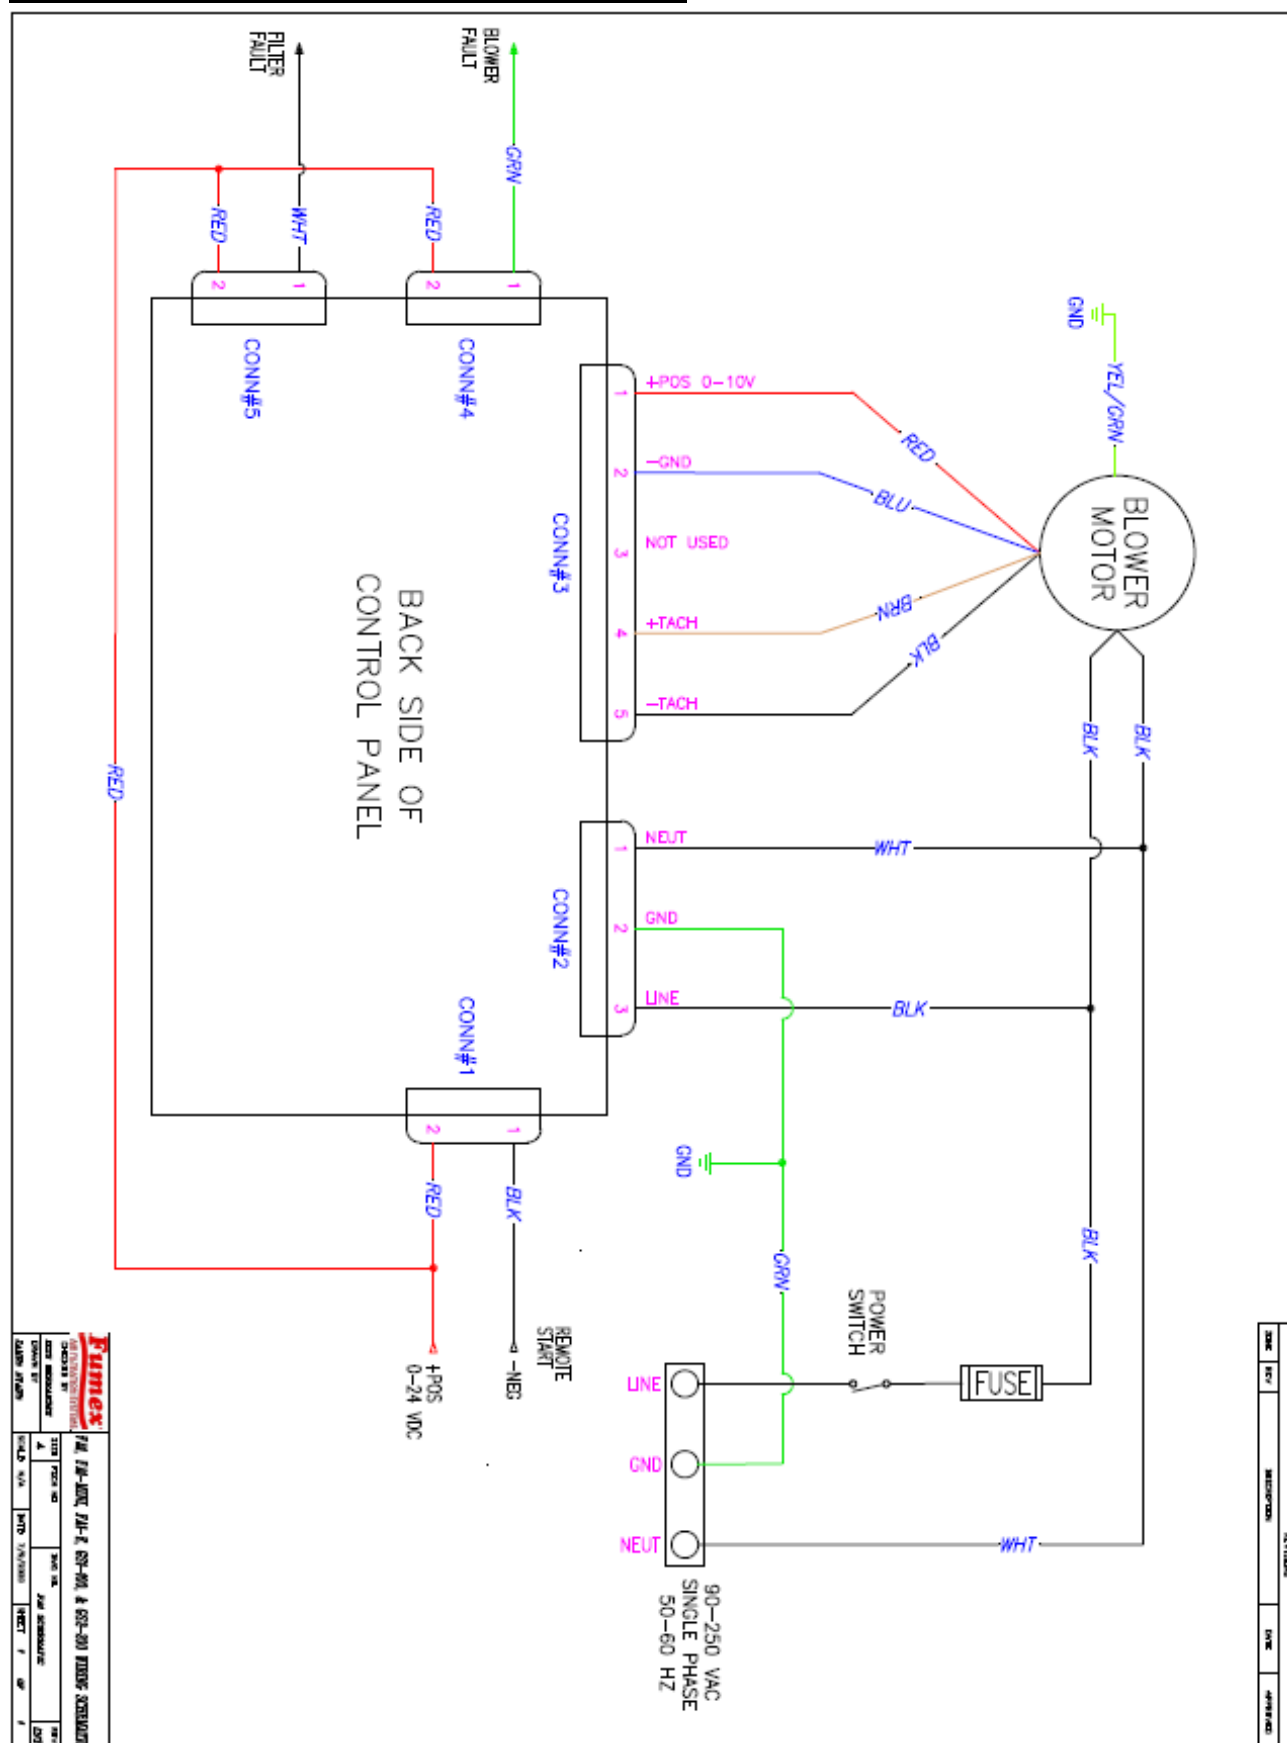

Figure 1
The FA1-E unit can be supplied with an optional interface package providing remote start/stop and filter monitoring capabilities (Part # FA228). Please see instructions below for Relay Activation/De-Activation procedures and refer to the drawing in Figure 1 for remote connections.
3. Locate relay activation switch on the rear of the control panel as shown in Figure 1.